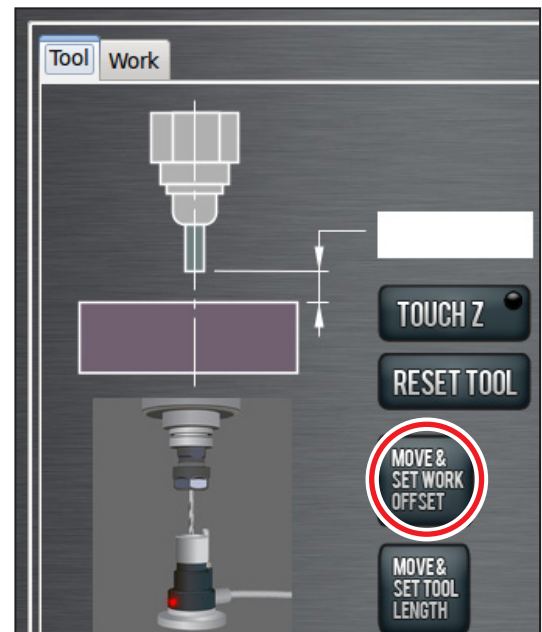

Figure 8.25
1. Click *Offsets* tab, then *Tool* tab (see **Figure 8.25**).
5. Click *Move & Set Work Offset* (see **Figure 8.25**).